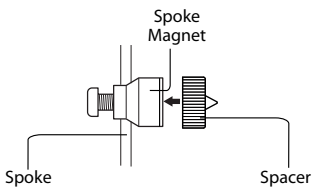

Fig. 4
- Step 4:** Slide and rotate the sensor until the alignment mark just touches the spacer tip on the magnet. (Fig. 4)